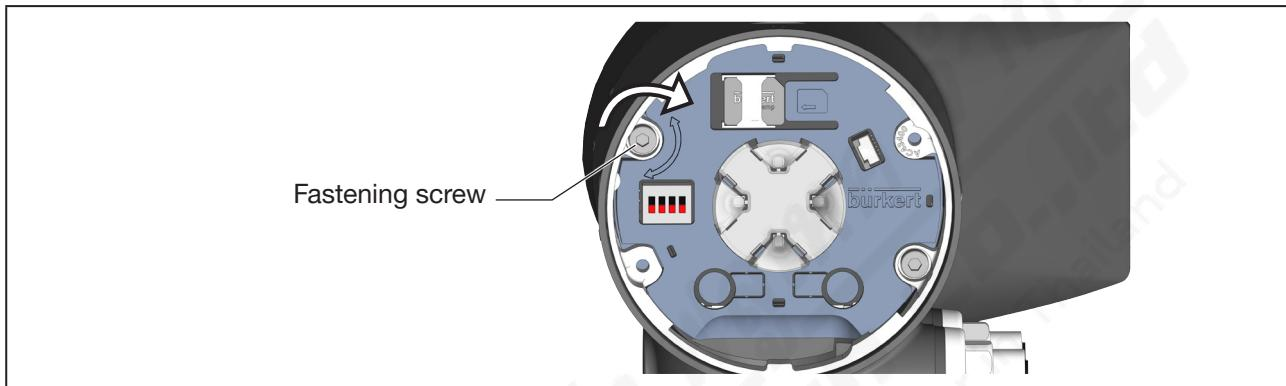

Fig. 67: Remove fieldbus gateway
- Apply light pressure to lock the mechanical manual override mechanism into place while turning the Allen key at the same time (see „Bild 67“).